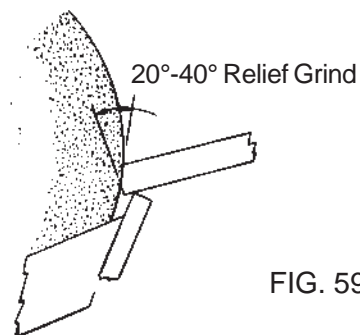

FIG. 59
- C. There are three (3) hand knobs to loosen. Two (2) on the base for the adjusting arm locks and one for grinding wheel vertical height adjustment locking screw. Raise the grinding wheel up (approximately 7 turns) so the reel blade can rest on the reel guide finger. It will be necessary to infeed the grinding wheel to accomplish this. See FIG. 59.
- D. Now you can adjust the back angle you wish to put on the reel blade. (The average recommended manufacturer's angle is 20 to 40 degrees. When in doubt, check with each reel manufacturer as to the exact angle required.) By looking down the reel from the operator's position you can see the reel and its relative position to the grinding wheel. By raising the grinding wheel you will decrease the back angle and conversely by lowering the grinding wheel you will increase the back relief angle. Traverse the grinding wheel assembly to the right side of the reel. Retighten all three (3) hand knobs.